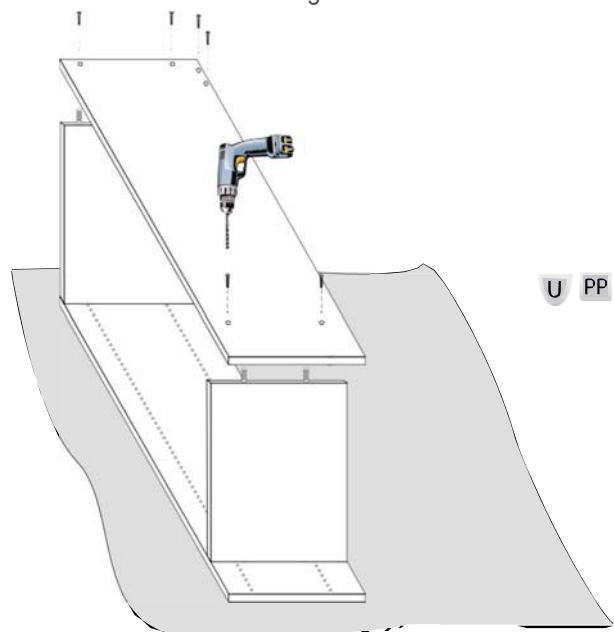

Fig. 3
3. Lay second partition over the exposed dowels attached to the shelves and nailers and press together gently until pieces fit snugly. (See Fig. 3 .)
4. Insert and fasten HILO screws into each of the two holes provided for the fixed shelves and nailers. (See Fig. 3 .) Add trim caps over all fastened HILO screws. Gently roll the “box” over onto the opposite side and repeat the fastening of screws and trim caps on the other partition.